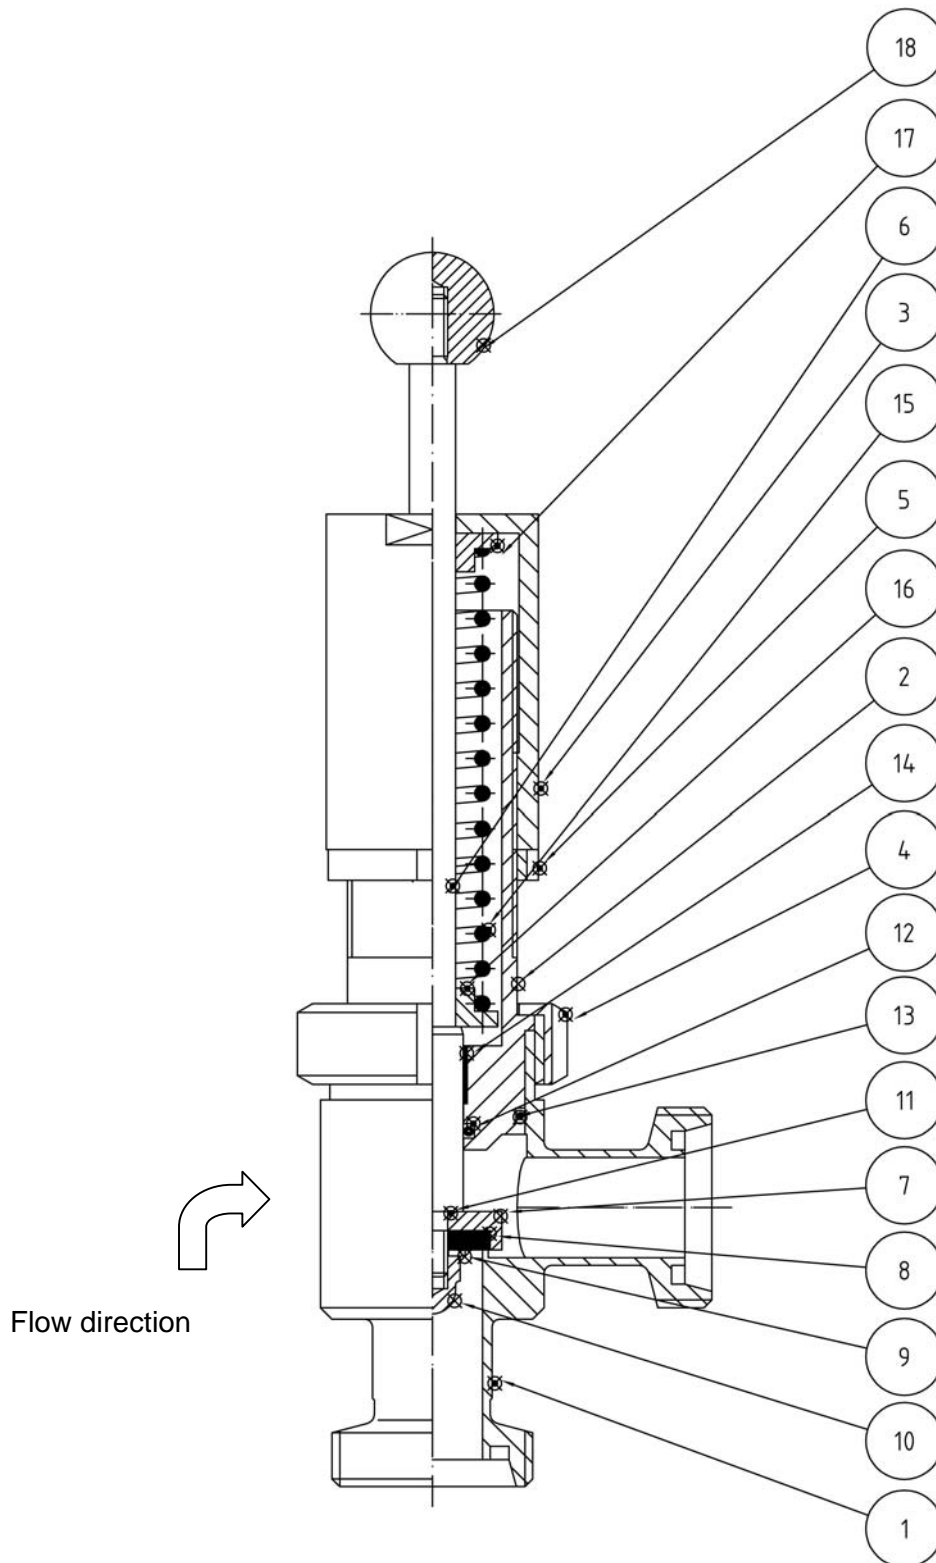

Fig. 1 Sectional view of angle-body relief valve GG (dimensions see chapter 10.1)
- But pay attention to the flow direction (see Fig.1).
- Connect the angle-body relief valve via the inlet and outlet liner of the valve housing (1) to the supply or return pipelines. To do so, attach a cone liner DIN 11851 (M&S Art.-No. 114) to the pipe ends, and screw the pipe ends to the threaded liners by means of a matching grooved nut DIN 11851-F (M&S Art.-No. 110) and using the corresponding gaskets DIN 11851-G (M&S Art.-No. 111).
- The valve is set to the required pressure by turning the threaded bush (3) and locked with the lock nut (5).